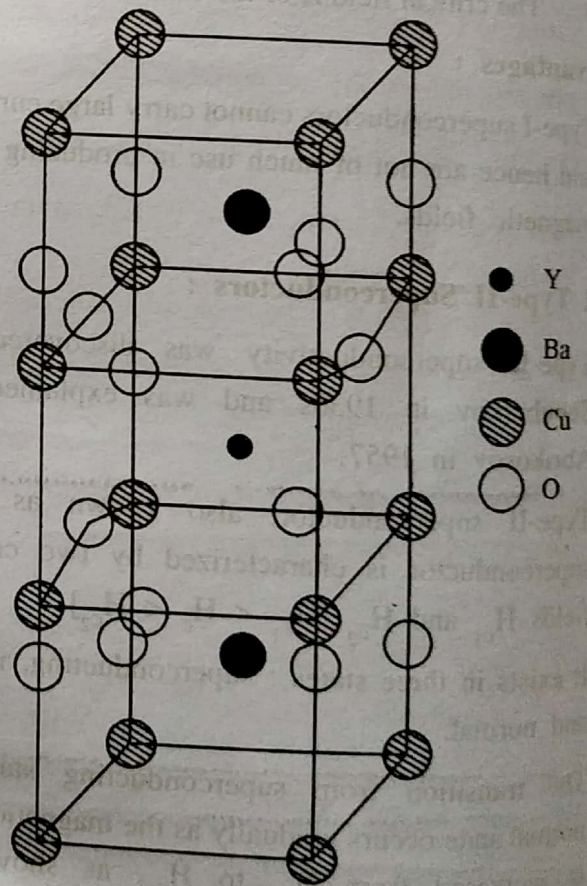

FIG. 5.12
- The structure of this compound is shown in the following Fig. 5.12.